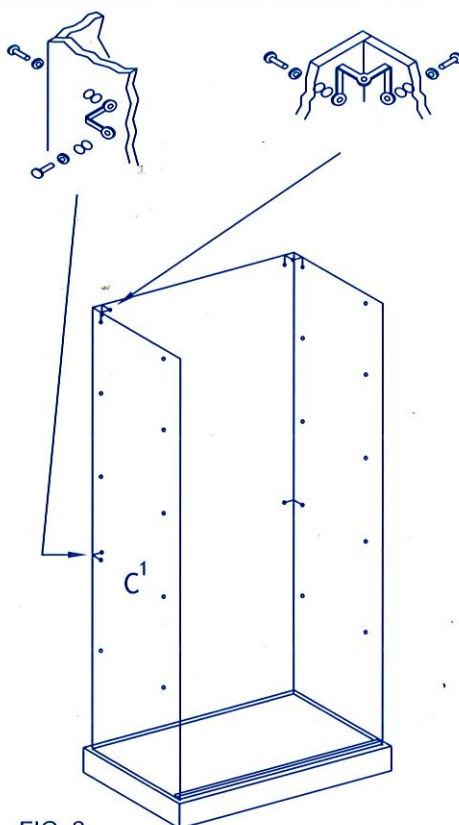

FIG. 2
- FIG. 2 REPETER L'OPERATION AVEC LE DEUXIEME COTE (C).
- FIG. 2 REPEAT THE OPERATION WITH THE SECOND LATERAL SIDE (C).
- FIG. 2 WIEDERHOLEN SIE DIE OPERATION MIT DER ZWEITE SEITE (C).
- FIG. 2 REPETIR LA OPERACION CON EL SEGUNDO LATERAL (C).
- FIG. 2 RIPETERE L'OPERAZIONE CON L'ALTRA SPALLA (C).